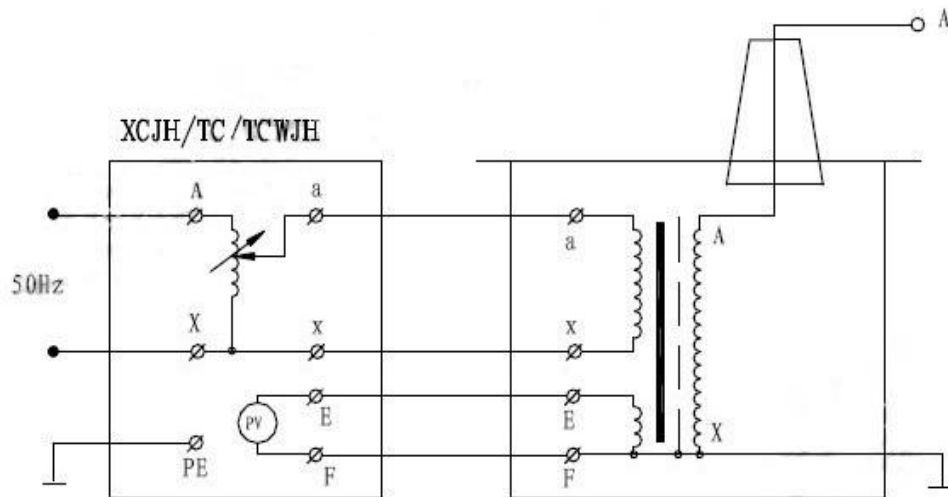
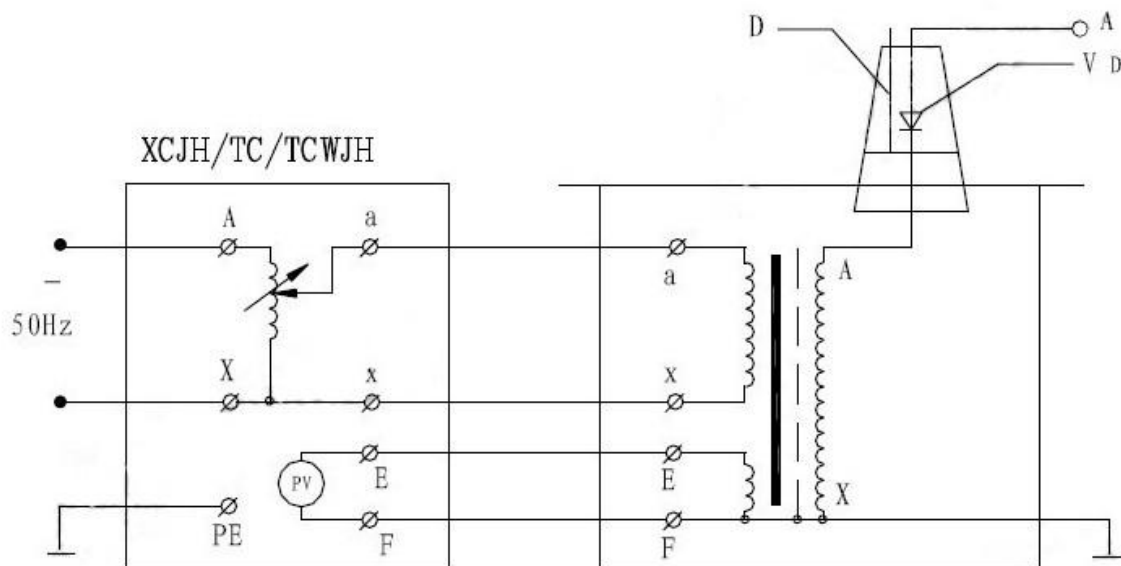

Figure 3: YDJ series AC test transformer working diagram
Figure 4: YDJZ AC and DC test transformer working diagram
YDJ(Z) series test transformer is single-phase, connecting group I.I. Power supply 50Hz 220V (380V for 10kVA above) connect to XC / TC control unit, after coupling in the control box regulator (>50kVA regulator is external attached) the voltage output to transformer primary winding, according to the principle of electromagnetic induction, the test transformer high voltage winding obtain the necessary high voltage test. Diagram shown in Figure 3, Figure 4
Figure 4 shows bushing fitted with voltage silicon stack, which is connected in high voltage circuit in series for half-wave rectification to obtain a DC high voltage. When using short circuit bar to short-circuit voltage silicon stack, there output power frequency high voltage, AC output status; working without short circuit bar here gets DC output.